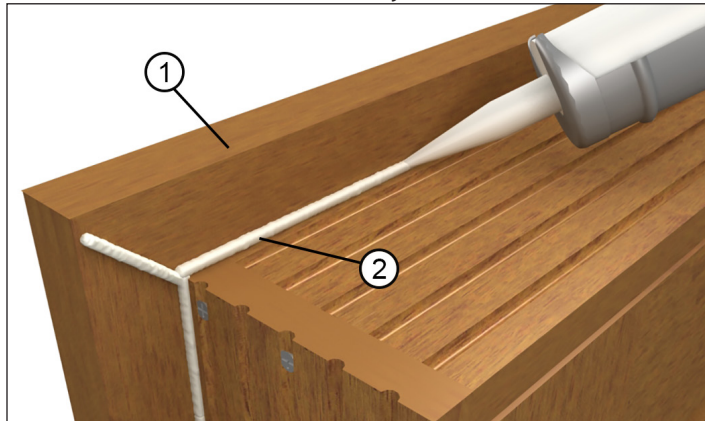

Figure 6
1. If door has casing applied, apply sealant to the back side of the exterior casing. See figure 6. Apply sealant where the casing meets the door frame and at miter joints.